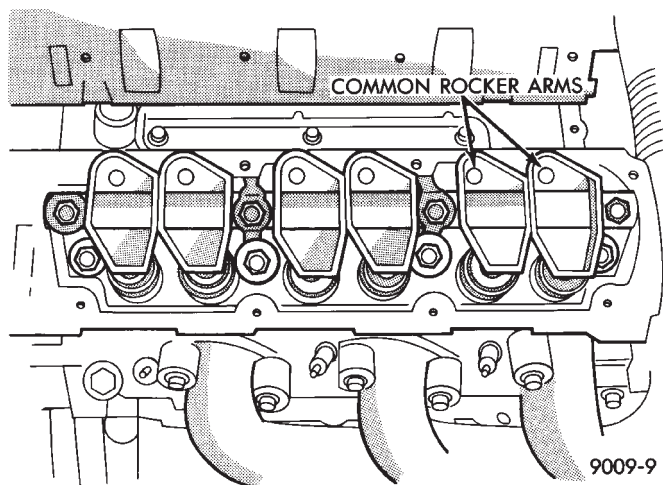

Fig. 5 Rocker Arm Location Left Bank
- (1) Remove upper intake manifold assembly. Refer to Intake and Exhaust Manifolds, Group 11.
- (2) Disconnect spark plug wires by pulling on the boot straight out in line with plug.
- (3) Disconnect closed ventilation system and evaporation control system from cylinder head cover.
- (4) Remove cylinder head cover and gasket.
- (5) Remove four rocker shaft bolts and retainers.
- (6) Remove rocker arms and shaft assembly.
- (7) If rocker arm assemblies are disassembled for cleaning or replacement. Assemble rocker arms in their original position. Refer to (Fig. 5) for rocker arm for positioning on the shaft.
- (1) Install rocker arm and shaft assemblies with the stamped steel retainers in the four positions, tighten to 28 N•m (250 in. lbs.) (Fig. 5).